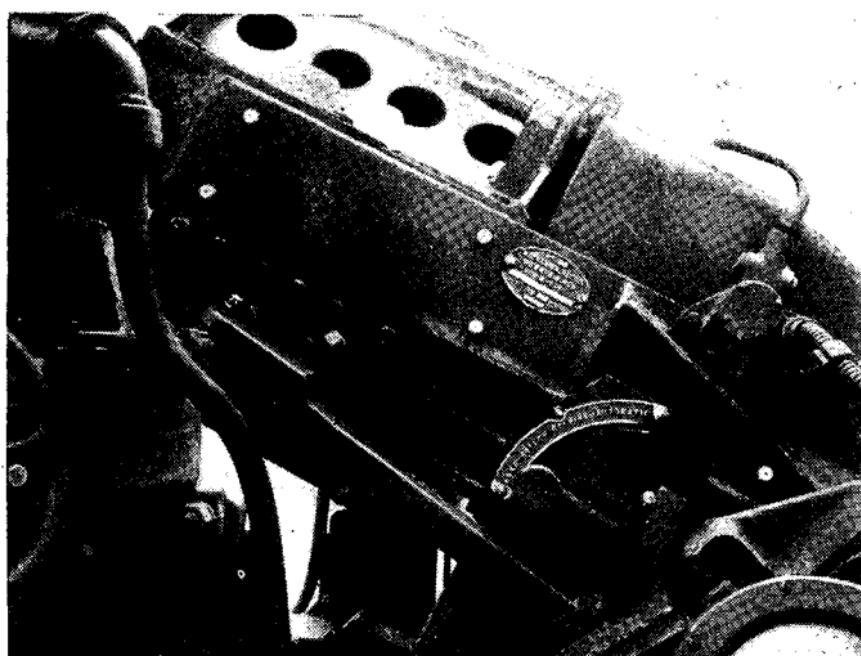

FIGURE 15.—Left side of gun, showing vent plug, recoil cylinder plug, breech operating cam lever, and control bar.
in a clean place for safekeeping. Completely loosen but do not remove vent plug. The recoil cylinder plug is located just to the rear and the vent plug just forward of the recoil throttling valve mechanism on the left side of the cradle (fig. 15). (Recoil mechanisms of serial number lower than 28 do not have the vent plug.) Using a clean funnel, pour recoil oil of the proper grade into the recoil mechanism, through the recoil cylinder plug hole. Pour very slowly so as not to trap air in the recoil cylinder. On a windy, dusty day use a canvas cover, or do the work indoors. Take every precaution to insure that no foreign substances or materials get into the recoil mechanism, as they may do irreparable damage. When the recoil mechanism is filled to the point where oil can no longer be poured in, reinsert the recoil cylinder plug, but do *not* tighten it in the hole. Prepare and attach a filled oil screw filler as in (2) above, to the system, and slowly force reserve oil into the mechanism. As soon as bubble-free oil starts to emerge from around the recoil cylinder plug, tighten it firmly, but do not force it to the extent of damaging its gasket. Resume injection of oil until it now "cracks out" around the loosened vent plug. Tighten vent plug firmly and resume injecting oil into the recoil mechanism. Almost immediately a sudden increase will be noticed in the force needed on the oil screw filler handle to drive oil into mechanism. This is the point where oil reserve starts to build up. Inject two screw fillers full into the system in the manner described in (2) above. Disconnect oil screw filler from recoil mechanism, and replace oil filling valve plug housing plug and tighten.